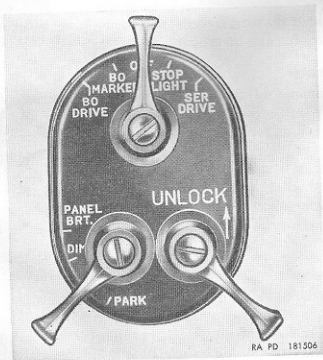

Figure 8. Light switch assembly.
The light switch assembly (E, fig. 7 and fig. 8) is located on the instrument panel to the left of the steering gear jacket. It consists of three levers, for three individual switches, incorporated into one switch unit. The levers are the main switch, auxiliary switch, and mechanical switch. The switches control the various lighting circuits of the vehicle. Operation of the light switch is covered in paragraph 52.
The two instrument panel lights (L, fig. 7) are located on the instrument cluster panel on each side of the speedometer. The lights provide illumination for the instruments and gages in the instrument cluster panel. They are actuated by the auxiliary switch lever, on the light switch (fig. 8), which is covered in paragraph 52.
a. *General.* To operate, the light switch for various lights incorporated in the vehicle requires three switch levers (fig. 8). The levers are the main switch lever, located at top of switch assembly, mechanical switch lever, located at lower right side of switch assembly, and auxiliary switch lever located at lower left side of switch assembly. When the main switch lever is vertical, it is on the OFF position and all vehicle lights will be off. Lights on the vehicle can be used only by positioning the mechanical switch lever in the UNLOCK position and the main switch lever in other than the OFF position. Any lights which are on, and which are con-
b. Mechanical Switch Lever. The mechanical switch lever (fig. 8) is a locking switch lever with two positions. They are the UNLOCK position, indicated on the switch assembly, and the locked position. The locked position is not identified but this lever is always in locked position until raised and held in UNLOCK position. Releasing the switch lever returns it to locked position. It must first be raised to the UNLOCK position to permit positioning the main switch lever or auxiliary switch lever.
c. Main Switch Lever. The main switch lever (fig. 8) has five positions. They are indicated on the switch assembly, and show the respective lights being used. When the lever is in a vertical position it is OFF. The stop light position of the lever is used for daytime driving to illuminate the left rear service stop light when brakes are applied.
d. Auxiliary Switch Lever. The auxiliary switch lever (fig. 8) has four positions. The positions are indicated on the switch assembly and show the lights being used and the OFF position. The PARK position on this switch lights only the left rear tail light and cuts off the circuit to service headlights.